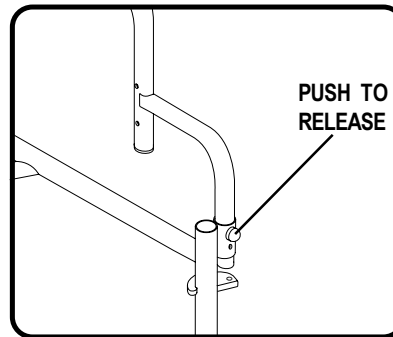

Figure 8. Armrest Removal
4. If necessary, remove an armrest. See figure 8.